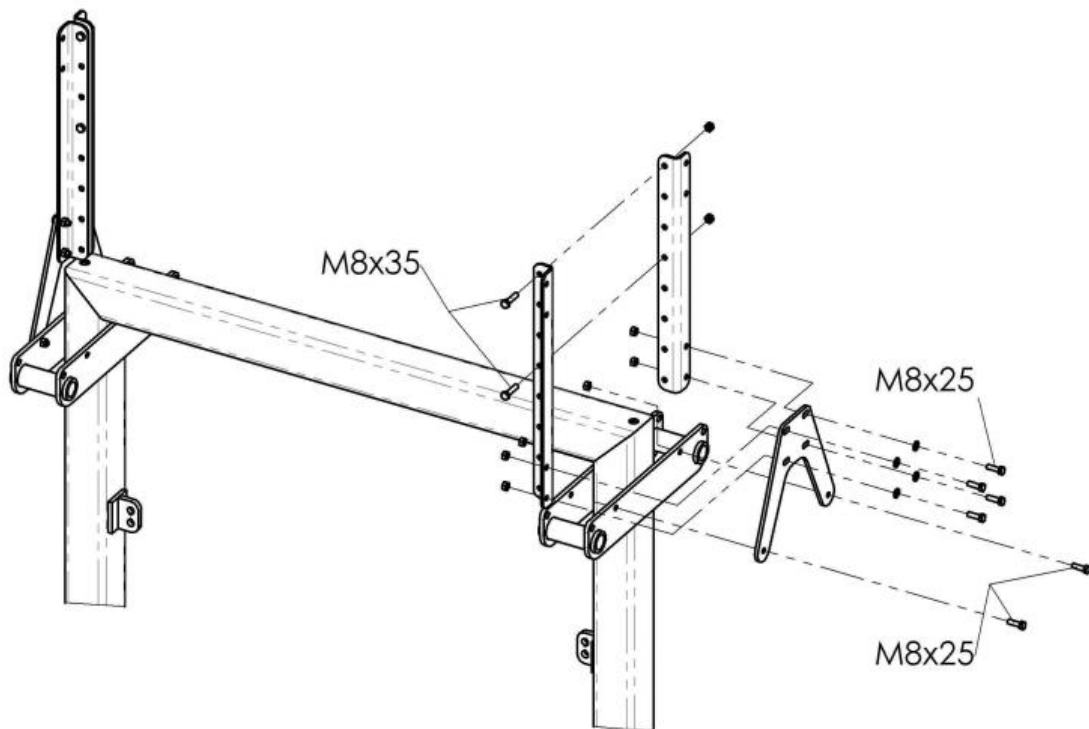

Fig. 1 - Assembly of the advertisement board bracket
- a. Assembly of the advertisement board bracket on the tool rack (Fig. 1)